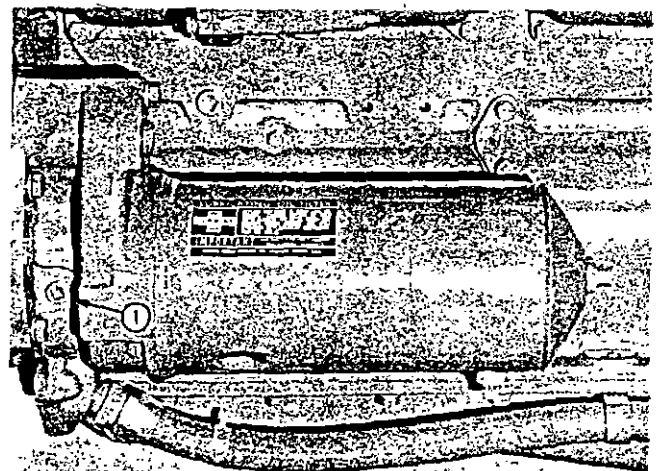

Fig. 2-1, N11927. Lubricating system priming point
2. Remove pipe plug from side of cylinder block if bag-type filter element is used; if paper element is used, remove plug on side of lubricating oil pump. Fig. 2-1.